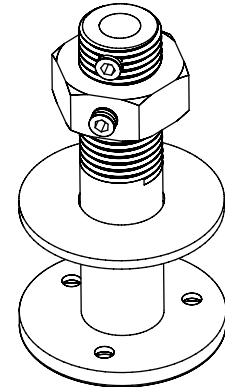

Fig 2. Az Encoder pivot bolt, washer and nut.
2) Identify supplied Az encoder pivot bolt as shown in Fig 2. Using supplied M2 hex key, screw M4 set screw that is fastened in the side of the bolt all the way in so that it is recessed beneath the threads of the bolt. Remove & retain supplied 1/2" Az encoder pivot bolt hex nut and 1/2" washer.